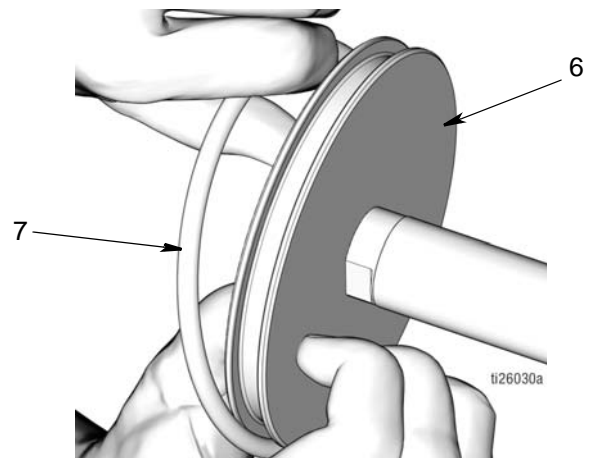

FIG. 50
- Apply a thin layer of grease to o-ring (7). Install o-ring (7) around piston (6) as shown in FIG. 50.